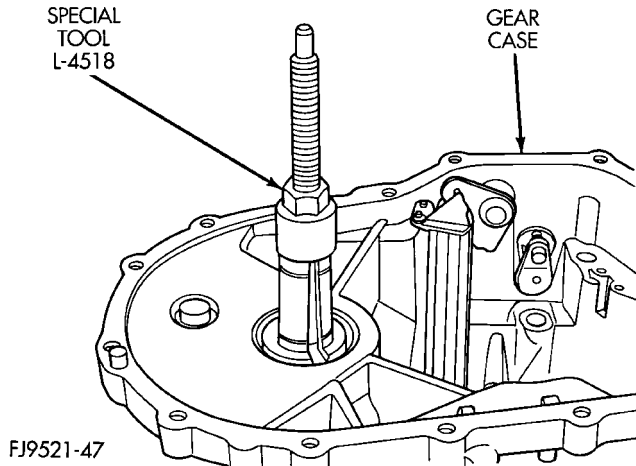

Fig. 131 Tool Installed in Bearing
- (1) Remove differential assembly from gear case using the procedure outlined in this group.
- (2) Install Miller tool #L-4518 into the differential bearing cup (Fig. 131).